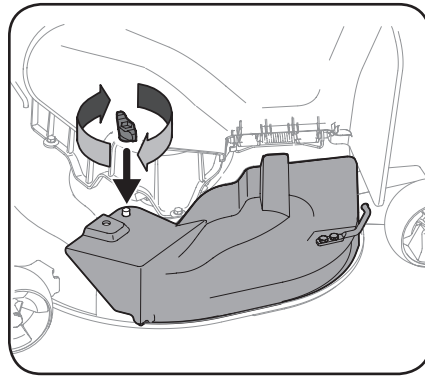

Figure 1-7
4. Secure the mulch plug in place with the wing knob. See Figure 1-7.